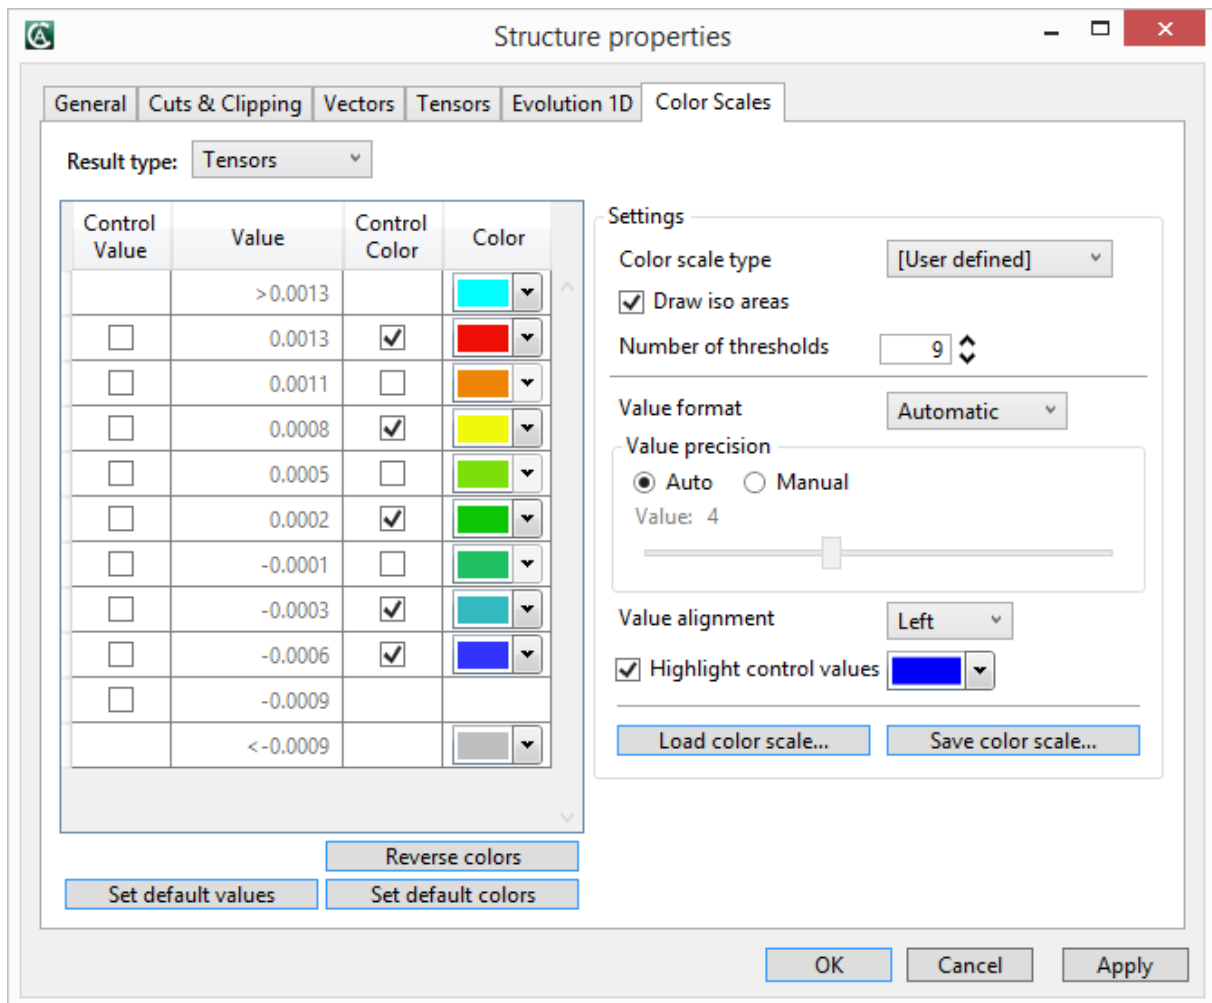

Fig. 3-30 Structure properties. Color scales
- a map linking colors with scalar, vector or tensor results which is dependent on selected **Result type** (see Fig. 3-30)